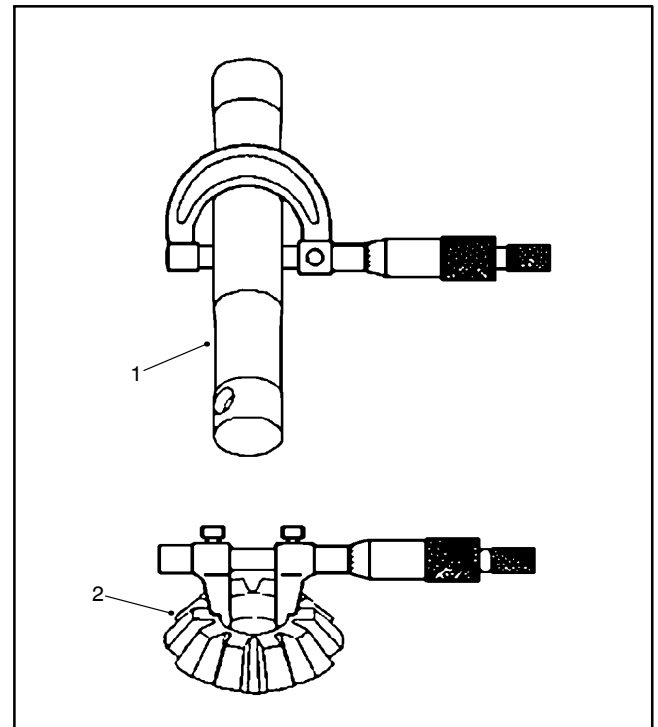

Figure 36
2. Measure the differential pinion shaft O.D. and the pinion gear I.D. to determine the pinion shaft to pinion gear clearance (Fig. 36). Replace components as necessary.